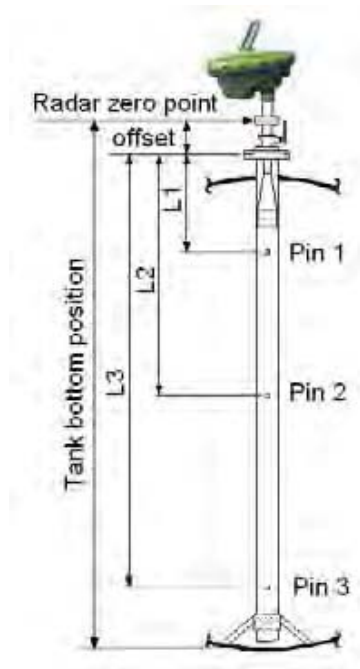

FIGURE 6-13 Radar zero point and verification pins positions
*NOTE: The radar zero point from the FlexLine with an H04 Antenna is located at the flange of the tank separator. See FIGURE 6-13.*